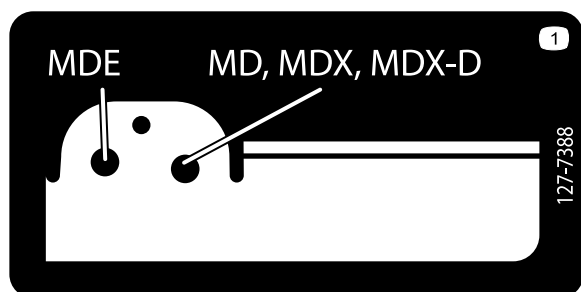

Figure 23
6. Identify which hole of the outboard- and inboard-lift brackets the clevis pin for the lift-actuator rod is located for you machine type; refer to the decal in the inboard bracket (Figure 23).